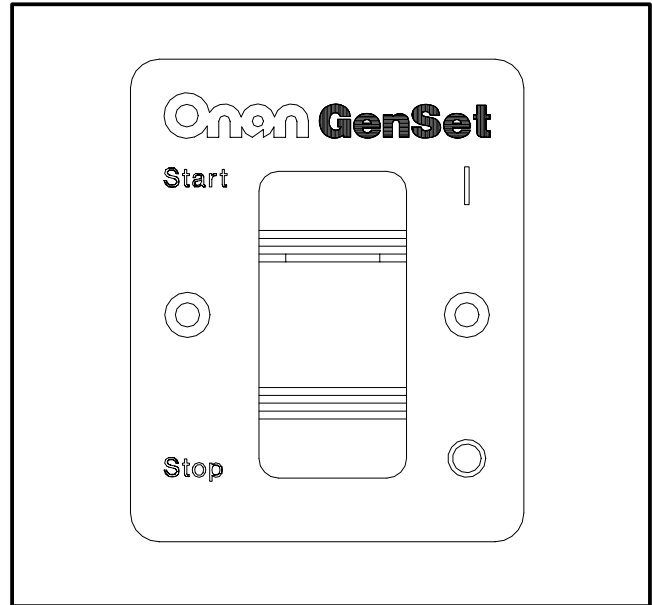

FIGURE 4. START/STOP SWITCH ONLY PANEL
- Remote panel with start/stop switch and indicator lamp only (see Figure 4).
2. Push and hold the genset or remote START switch (Figures 4, 5 and 6) until the genset starts. (The remote START switch inside the vehicle should have a lamp which lights to indicate that the genset has started and is running.)